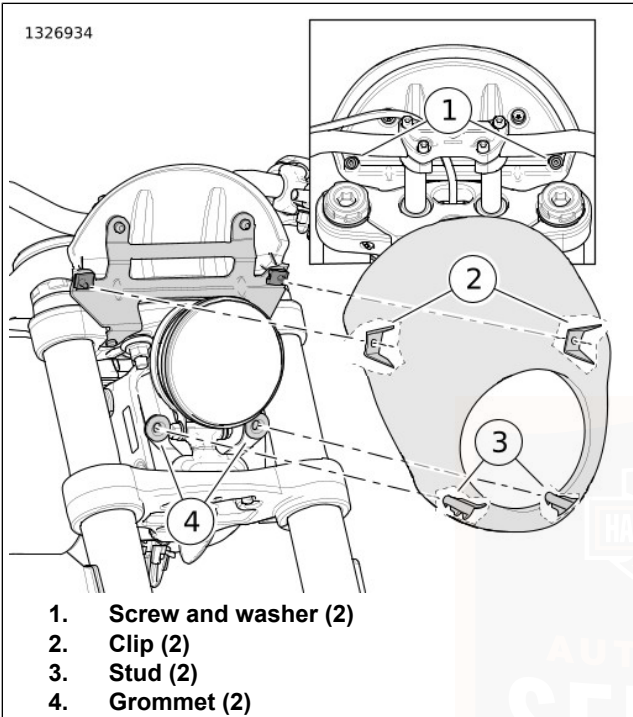

Figure 38. Fairing
1. See Figure 38. Remove fairing.
- a. Remove the screws and washers (1).
- b. Pull fairing forward to release mounting studs (2) from grommets (3).